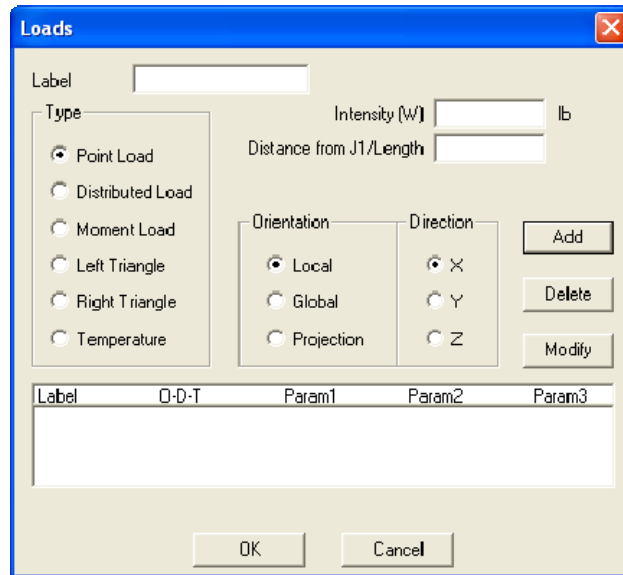

Figure 3-16 Loads dialog box
- From the Define menu, select Loads. The dialog box of Figure 3-16 appears